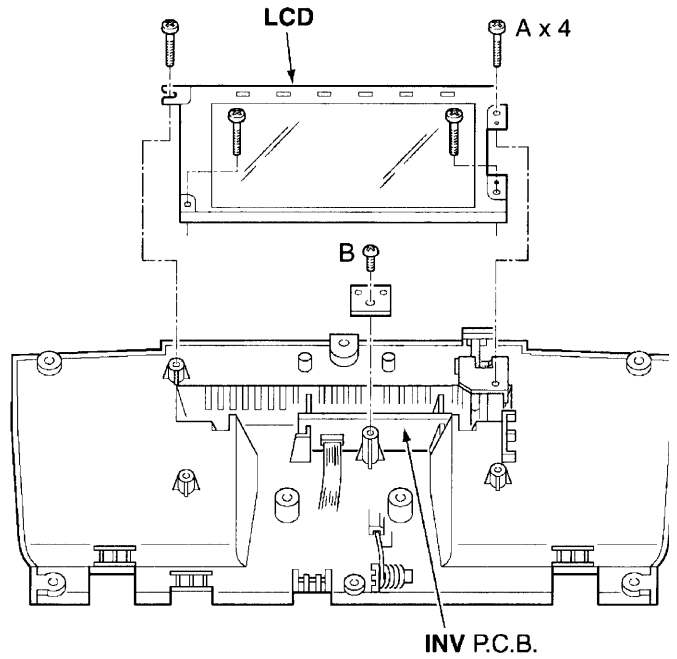

Figure-17
- Remove the LCD mounting screws (A 4 pcs.) as shown in Figure-17.
1. Remove the bracket mounting screw (B 1 pc.) as shown in Figure-17.